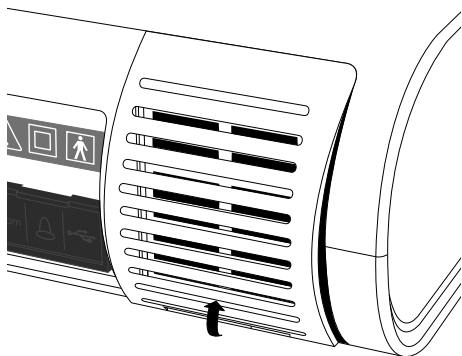

Fig. 45: Pulling out the air inlet cover
1. Pull the cover of the air inlet from the device, as shown in Fig. 45.